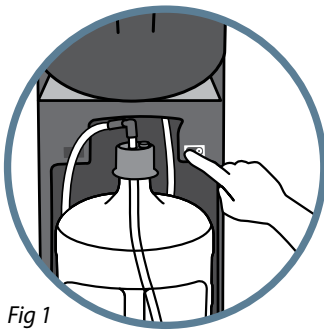

Fig 1
1. Slide the cooler door up and turn off the hot tank heater switch (Fig 1). Let the unit stand for one hour before cleaning to allow the hot tank to cool.